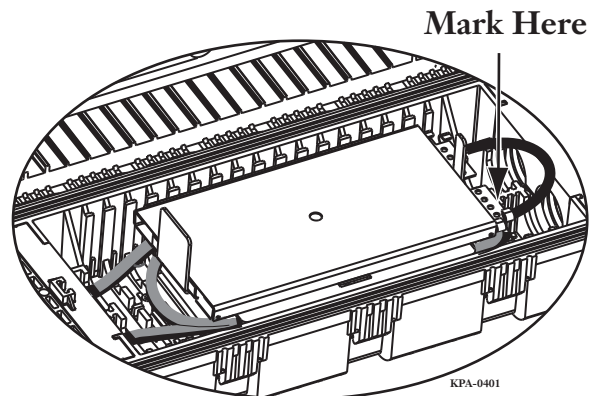

Figure 31
- Step 2:** Route the ribbon to the lower right corner of the splice tray (Figure 31). Mark the ribbon where it enters the tray.